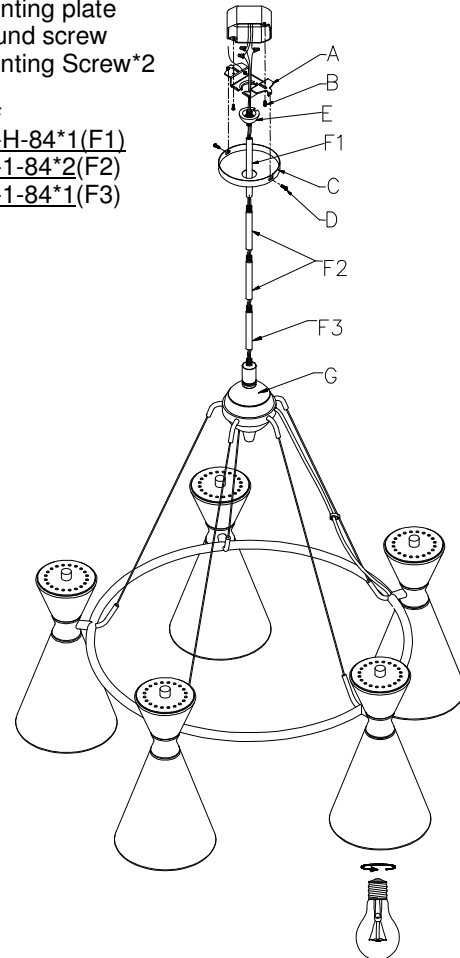

Fig. 3
CONNECTING THE WIRES (Fig. 3)
7. At this point, connect the electrical wires as shown in figure 3, making sure that all wire connectors are secured. If your outlet has a ground wire (green or bare copper), connect the ground wires from the hanger ball and mounting plate to it. Otherwise, connect the ground wire from the hanger ball directly to the mounting plate ground wire and secure with the wire connectors provided. After wires are connected, tuck them carefully into the ceiling junction box.